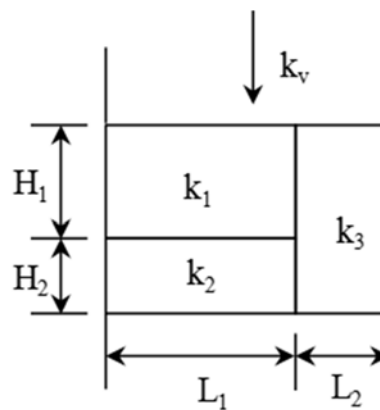

Figure 2
- 2) The soil specimen shown in Figure 2 was prepared by setting impermeable boundaries along both left and right sides of a partitioned block consisting of 2 layers of soil arranged in series and 1 layer of soil connected in parallel. The individual layers in series on the left-hand side have a width L_1 and a thickness H_1 and H_2 respectively, with individual coefficients of permeability k_1 and k_2 . The single layer on the right-hand side has a width L_2 with thickness $H_1 + H_2$, and its coefficient of permeability is assumed to be k_3 . By considering this a steady-state permeability problem where the water flows uniformly in the soil specimen along